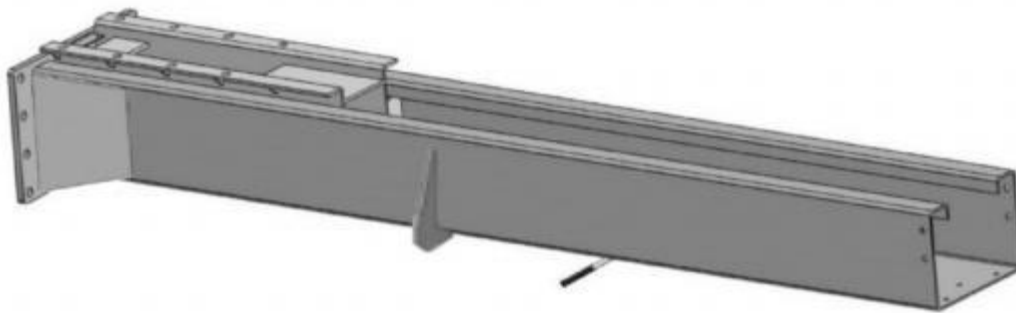

Fig.15
1.Lay the column flat on the ground. (See Fig.15)